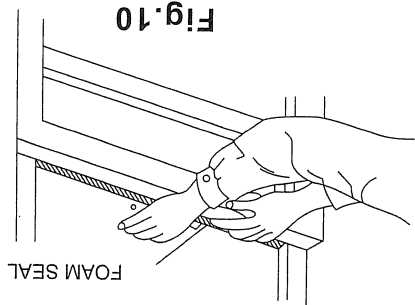
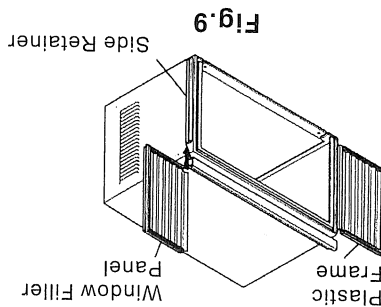

Fig.10
Fig. 9
D. Cut Window sash seal foam and insert it in the space between the upper and lower sashes (Fig.10).
2. Slide "I" section of window filler panel into side retainer on the side of the cabinet (see Fig. 9 & Fig. 10).